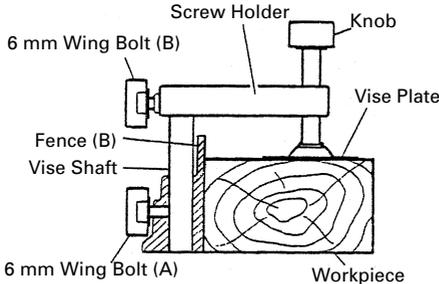

Fig. 6
4. Using the Vise Assembly (Standard accessory) (Fig. 6)